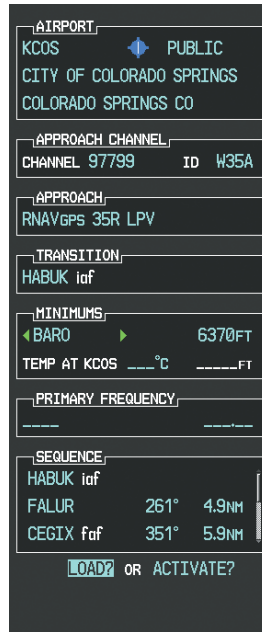

Figure 5-134 Barometric Minimums Set
- h) Barometric Minimums (Figure 5-134)